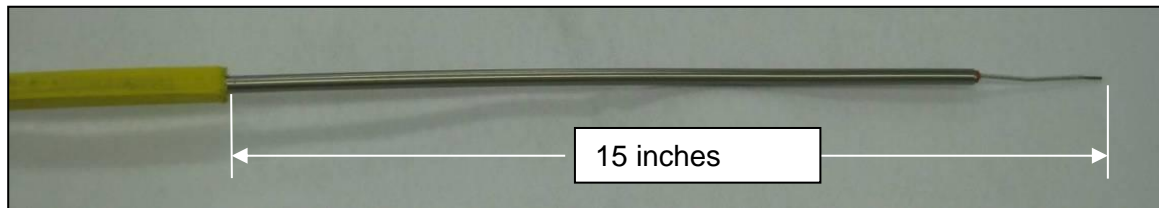

Figure 8. Preparing the TEC for connection.
5. Remove the Santoprene jacket from the tubing for approximately 15". Make sure the 1/4" tubing is smooth, straight, and free of any nicks and/or scratches. Figure 8.